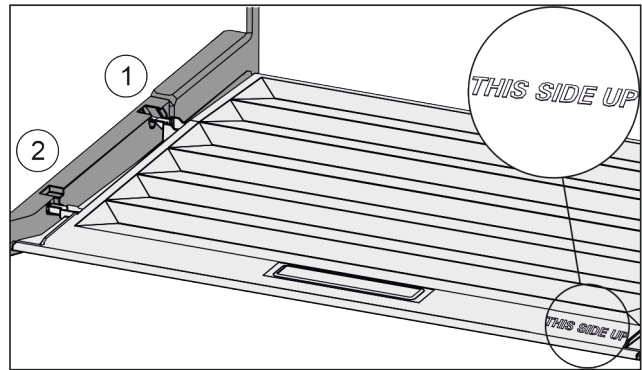

Fig. 102
- ▶ Insert the lip of the cover over the opening of the rear bracket *Fig. 102 (1)* and click into place *Fig. 102 (2)*.